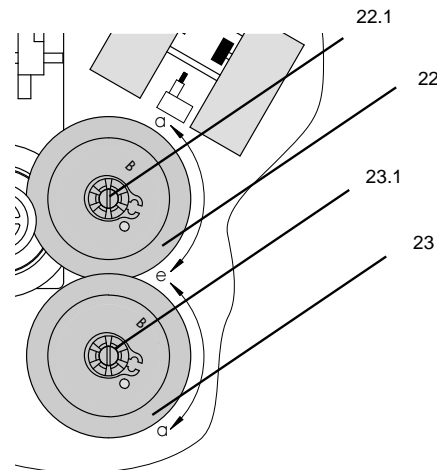

Fig. 25: Gears with retaining rings
4. Slide the intermediate gear (1) onto the spindle 1 (11.1).
5. Mount the serrated ring (3) and push it down as far as it will go.
6. Place the tension spring (4) onto the spindle 3 (11.3), ensuring that the long wire of the tension spring rests on the intermediate gear (1) and that the short wire of the spring is located between spindle 3 (11.3) and spindle 4 (11.4).
7. Slide the shim (10) onto the spindle 2 (11.2).
8. Mount the serrated ring (6) and push it down as far as it will go.
9. Put the resistance transmitter gears (22 and 23) fitted with retaining rings onto their shafts to correspond with the rated travel of the valve. The rated travel inscription 'A' for 30 mm rated travel or 'B' for 15 mm rated travel must be legible from above (see Fig. 25).
10. Slide the actuator board (12) into its guiding. Make sure that all the gears are properly engaged.